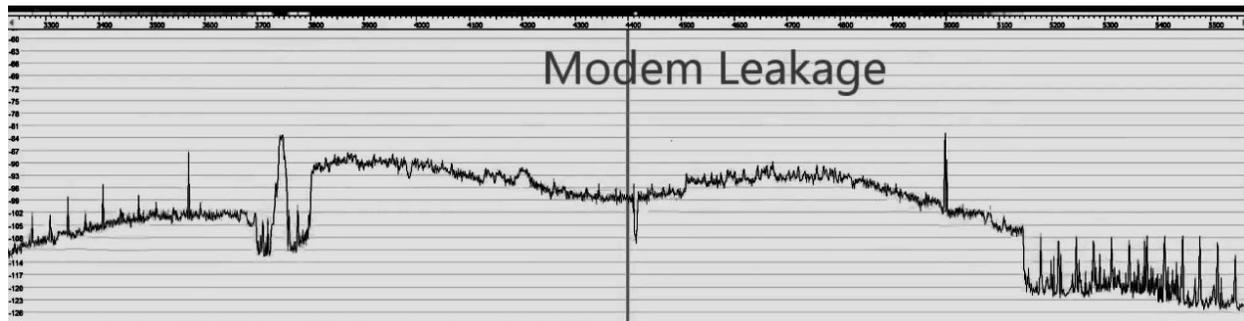

Fig 2 –VDSL/Cable Modem 3.2MHz – 5.6 MHz, 3dB/div
**Signal Leakage** from equipment or wiring is a third type of interference. Fig 2 shows leakage from a VDSL modem from about 3.7 – 5 MHz that strongly affects the 75M band. With help from W0QE, W0IVJ captured this spectral plot from an SDR in his Toyota as he drove around his neighborhood. The broad hump of noise is from the modem – the spikes are from an SMPS in his Toyota, as well as from other noise sources in the neighborhood. The spike at 5 MHz is WWV's carrier. This RFI will be heard as noise or hash. Tom recorded this as a video, which he has posted at <https://www.youtube.com/watch?v=HIGMmEgzhv0&feature=youtu.be>. There's more about this form of RFI later in this document where we address issues and solutions with specific product types.